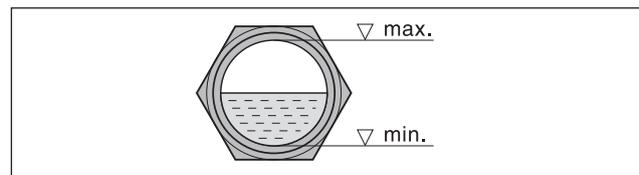

Fig. 4 Oil level
- After correcting the direction of rotation if necessary, start the motor again and stop it again after 2 minutes in order to top missing oil up to the upper edge of the sight glass (Fig. 4/I). This topping up at the filling point (Fig. 2/H) must be repeated until all the oil pipes have been filled completely.